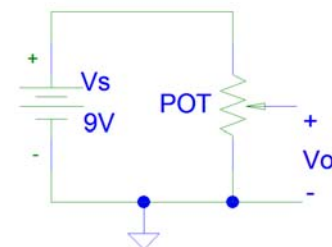

Figure 7 – Circuit to demonstrate a potentiometer.
2. Construct the circuit shown in Fig. 7.